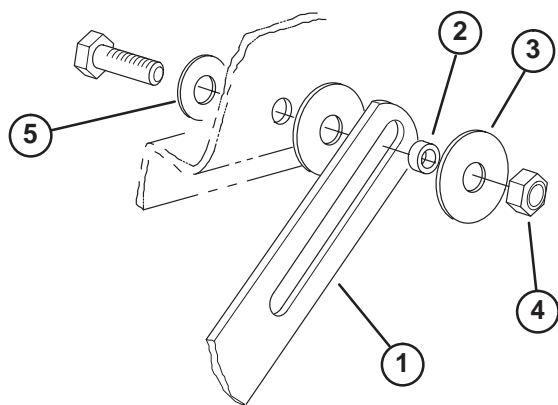

Figure 5
5. Mount hood stop, spacer and (2) washers to each side of hood with a 5/16–18 x 7/8" lg. capscrow and locknut (Fig. 5).